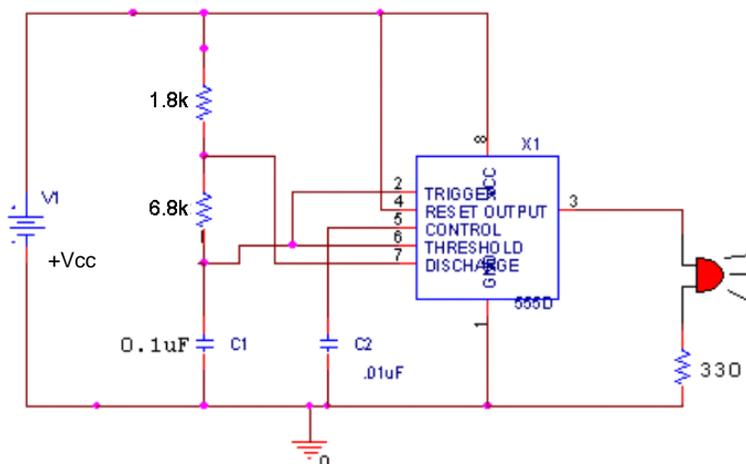

Figure A-6.
- Wire the astable multivibrator shown in Figure A-6 on your protoboard. Use the $\approx 5V$ DC output from the Analog Discovery board for V_{CC} . Use any color LED. It does not have to be red. Please pay close attention to the 555 Timer Chip pinouts, which are described in both the video and PowerPoint slides for this class. *Note: If you do not have components that match the ones in the circuit exactly, use the closest value. For example, for the 330Ω resistor, use the 470Ω in your kit.*